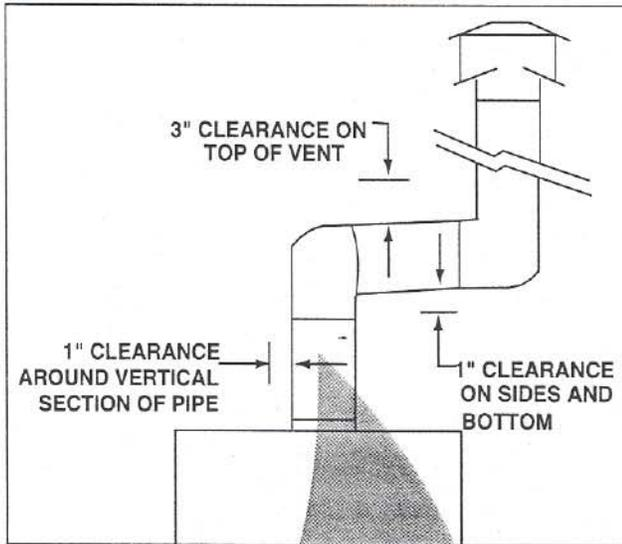

Figure 15
a. Clearances. See Figure 15 for clearance information.